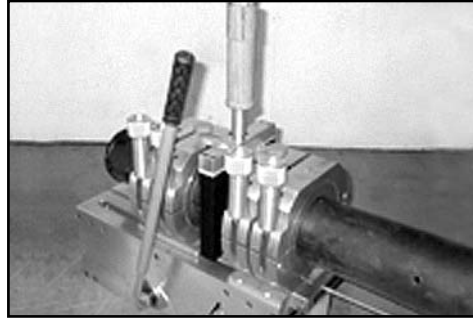

Figure 4.
1. Check the heat iron temperature. The gauge should read 500° F (+/- 10° F). Move the sliding clamp with the torque bar and carefully place the heating iron between the pipe ends so that the bracket on the heating iron fits on the pins on top of the clamps. Do not pick up heating iron by the cord. (Figure 4)